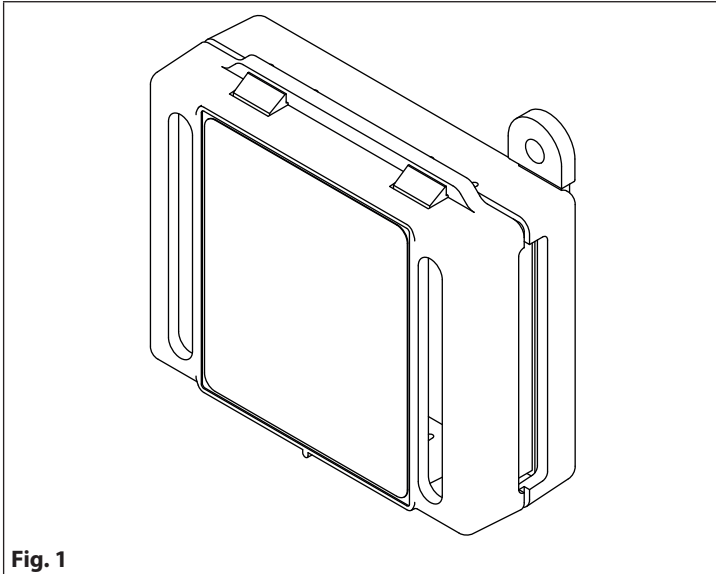

Fig. 1
- In order to install the videophone, it is necessary to remove the cover, which contains all the electronics, from the base: insert a 5.5mm flat screw driver into the clip (A) then rotate clockwise until you listen a "CLICK!". Repeat the same operation with the other clip as shown in Fig. 1.